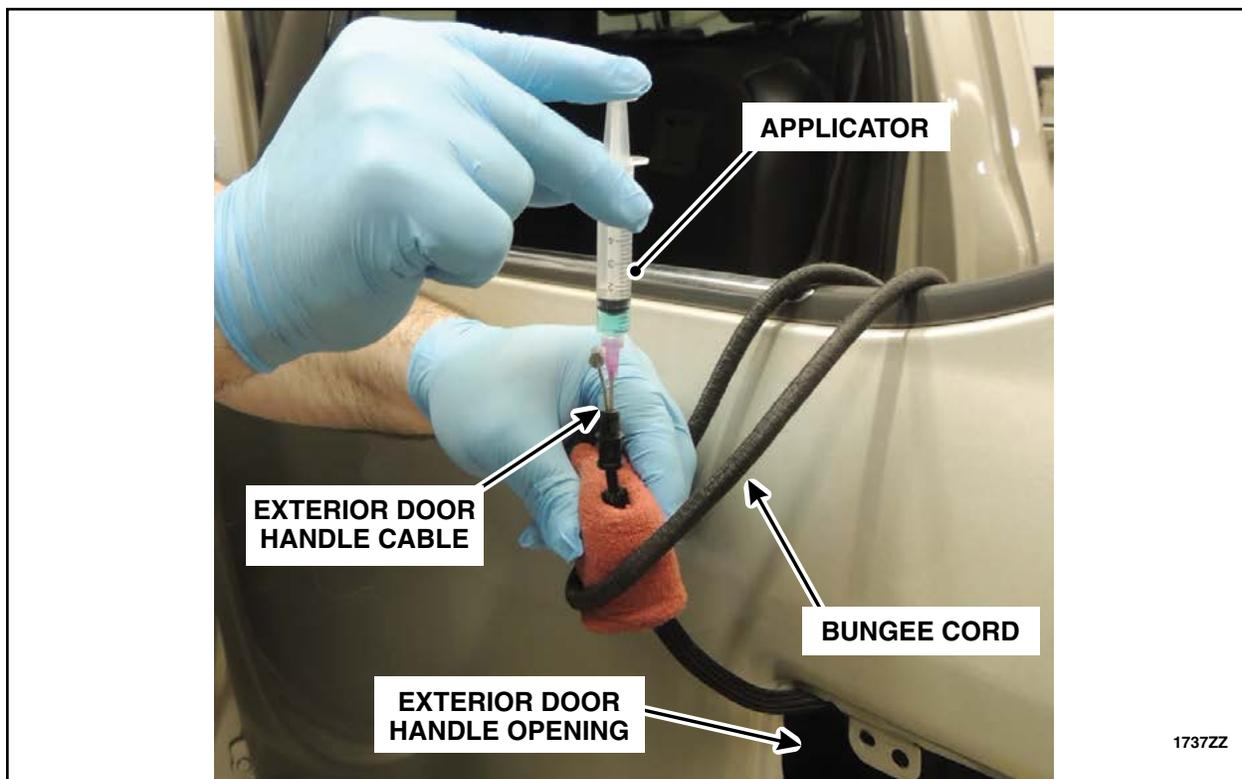

FIGURE 91
16. Towel dry the exterior door handle cable to absorb any residual moisture. Using a bungee cord or other similar device secure the exterior door handle cable to the door in an upward position as shown in Figure 91, to allow the undiluted Motorcraft® Premium Windshield Wash Concentrate (ZC-32-B2) or a 99 percent methyl hydrate (methanol) product time to run down into the cable, until the exterior door handle cable is reinstalled later in this procedure.